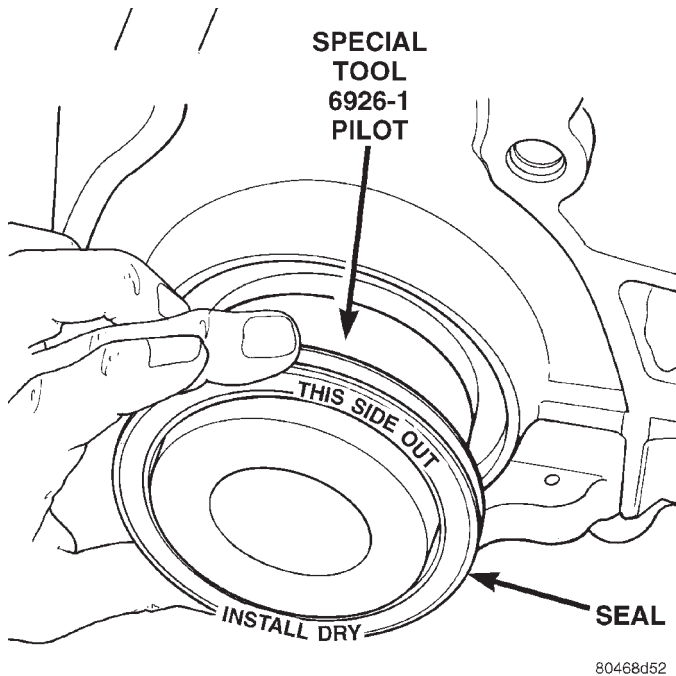

Fig. 76 Rear Crankshaft Seal and SpecialTool 6926-1
(1) Place Special Tool 6926-1 on crankshaft. This is a pilot tool with a magnetic base (Fig. 76).
(2) Position seal over pilot tool. Make sure you can read the words **THIS SIDE OUT** on seal (Fig. 76). Pilot tool should remain on crankshaft during installation of seal. Ensure that the lip of the seal is facing towards the crankcase during installation.